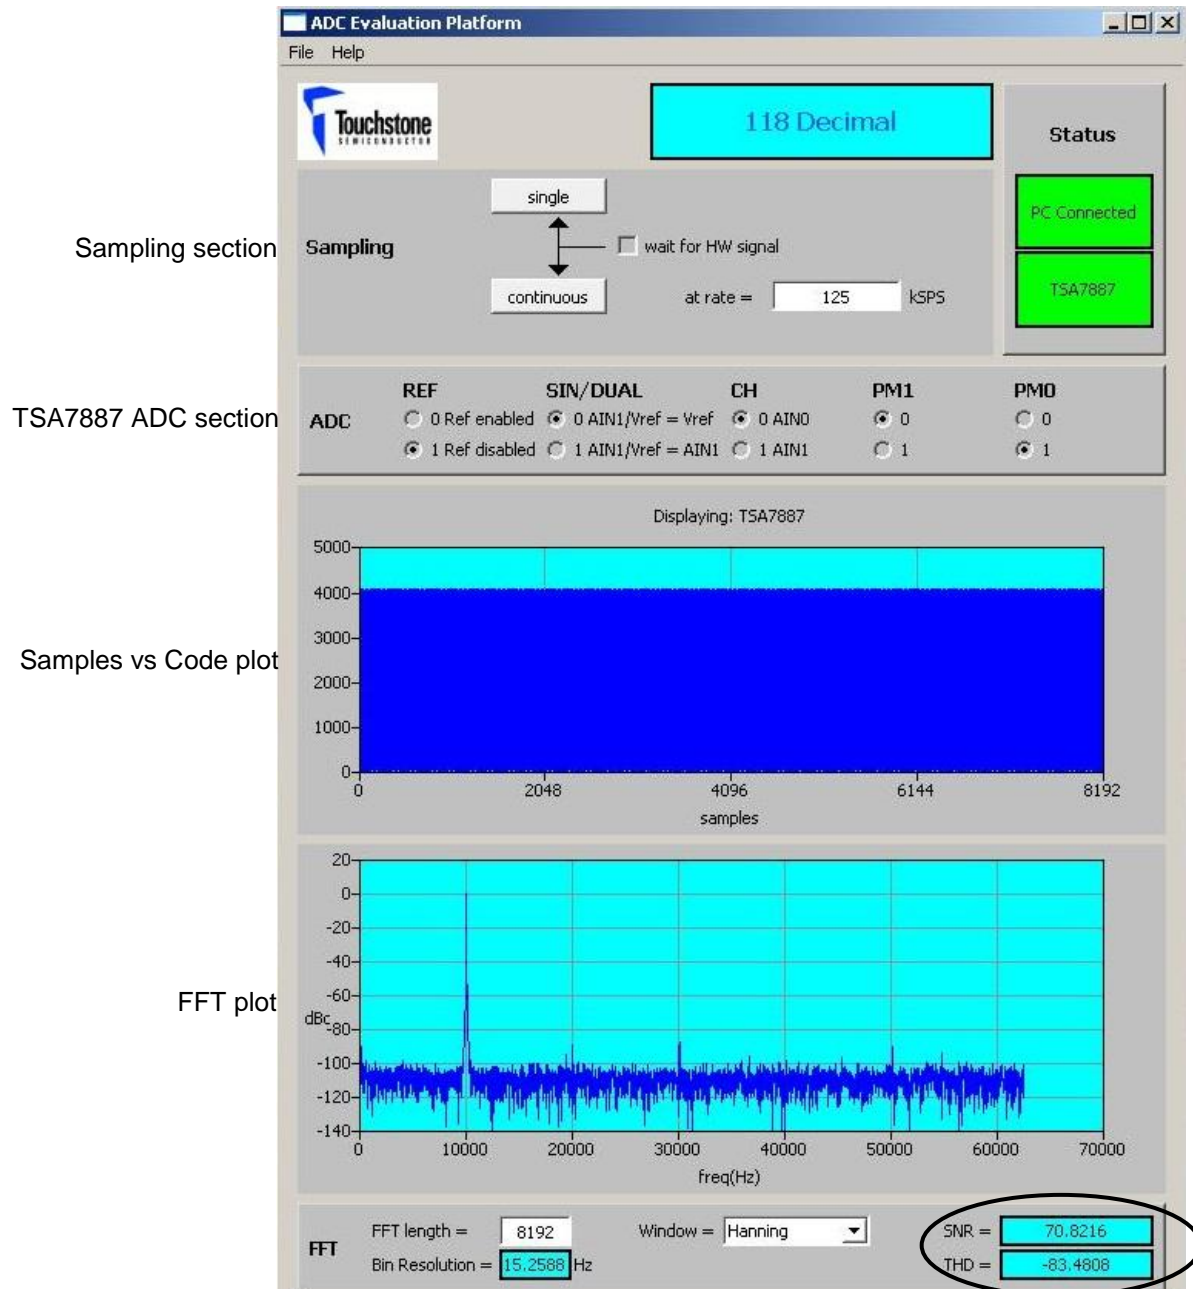

Figure 4. TSA7887 Response with GUI
- 7) In the TSA7887 ADC section, set PM0 = 1 and REF = 1. In the sampling section of the GUI, enter 125ksps. Use the default FFT length of 8192. Refer to Figure 4 and Table 2 and Table 3.
- 8) Turn on the signal generator. On the GUI screen, click on “continuous” in the sampling section, and monitor the results on the screen. The top plot shows a samples vs code plot and the bottom plot is an FFT plot. The SNR and THD values should be approximately 71dB and -80dB, respectively. Please refer to Figure 4 for an example of what the results should look like. In this case, the SNR and THD values are 71dB and -83dB, respectively.
- 9) As shown in the TSA7887 ADC section of the GUI, the TSA7887 mode of operation can be selected. Please refer to Figure 4 and Table 3.